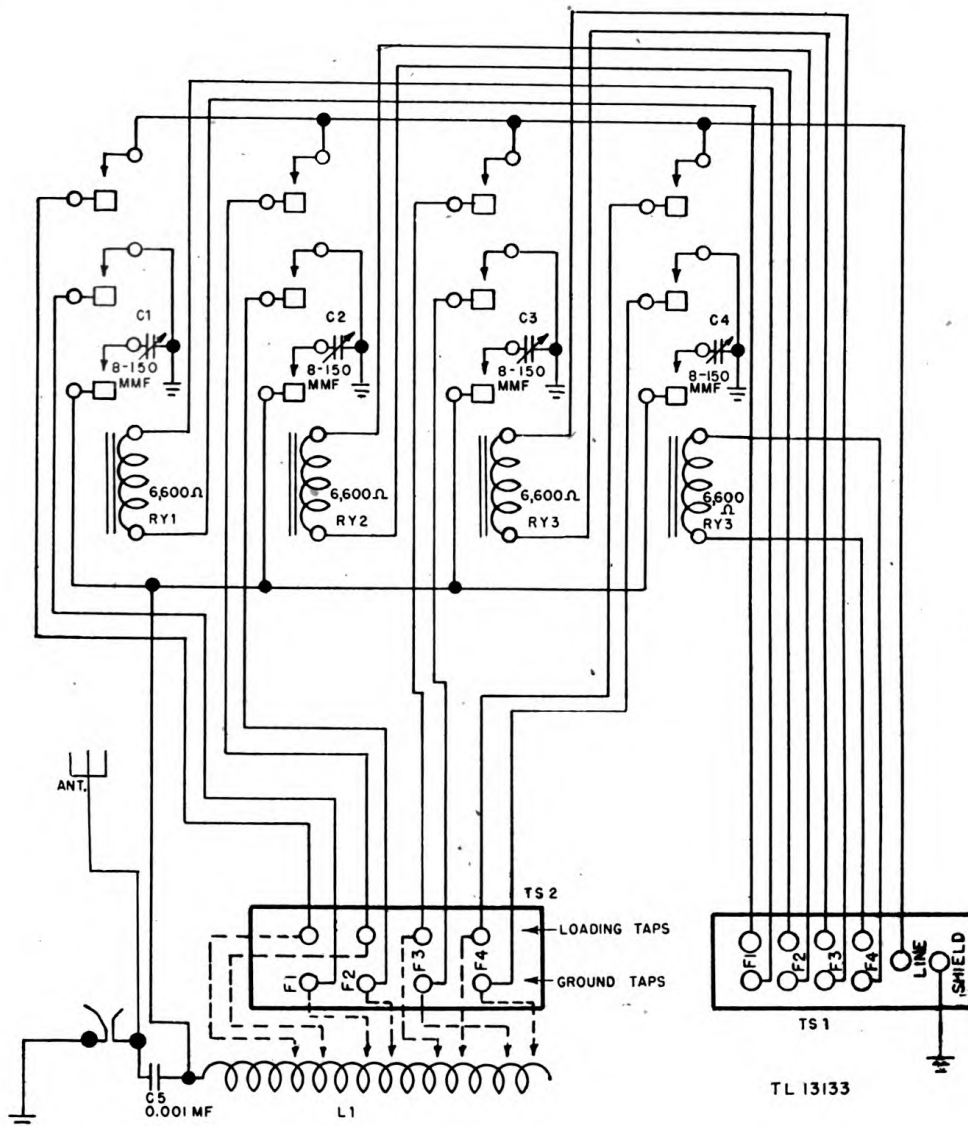

Figure 17. Antenna Tuning Unit BC-619-A—schematic diagram.
a. GENERAL. The adjustment for any one of the four preselected frequencies of Antenna Tuning Unit BC-619-A is basically the same. Electrically all four circuits are identical. To obtain resonance during adjustment, remember that approximately all the inductance is used at the low-frequency end of the range and that the inductance is decreased as the frequency increases. The amount of inductance used for any particular frequency is that portion of inductor L1 between the ground tap and the antenna or untapped end of the coil. Loading is adjusted by varying the position of the loading tap (fig. 17). Normally the loading tap is placed about two turns above the ground tap. Selection of each preset circuit is made by rotating the CRYSTAL SELECTOR switch on the front panel of Radio Set SCR-281-(*). One section, S2.1, of the CRYSTAL SELECTOR switch controls the a-c relays which in turn select the circuit for operation.
(1) Radio Set SCR-281-(*): Tune the transmitter to resonance as described in paragraph 90d.